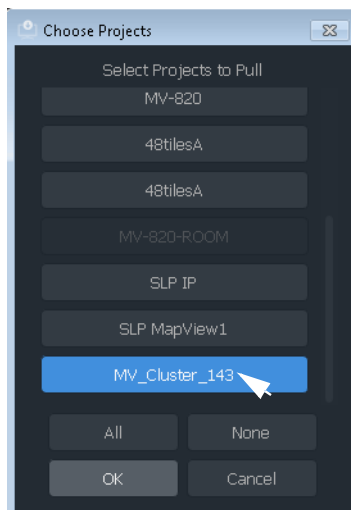

Fig. 7-17: Choose Pull
- 2 Ensure that the project Repository to be pulled is selected (highlighted in blue) in the dialog. See Figure 7-17.